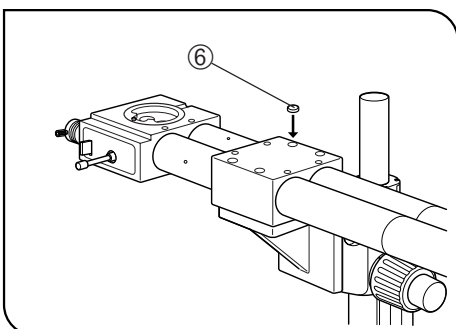

Fig. 9
7. Attach the 4 provided plastic caps ⑥ onto the 4 screw holes to hide the clamping screws. (Fig. 9)